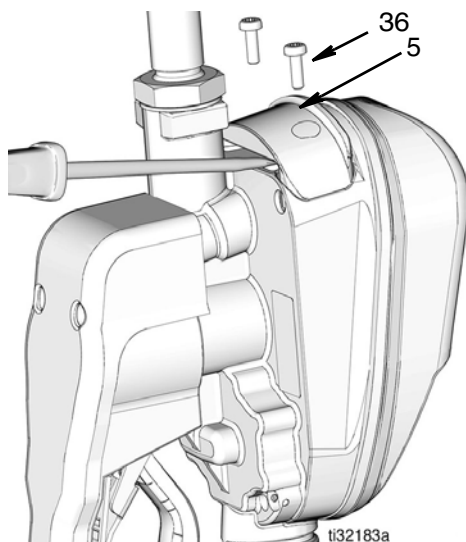

FIG. 1
1. Remove screws (36) from the battery compartment cover (5).
2. Use a small, flat screwdriver to gently pry the cover away from the metered dispense valve housing on the bottom side of the cover, near the extension attachment as shown in FIG. 1.